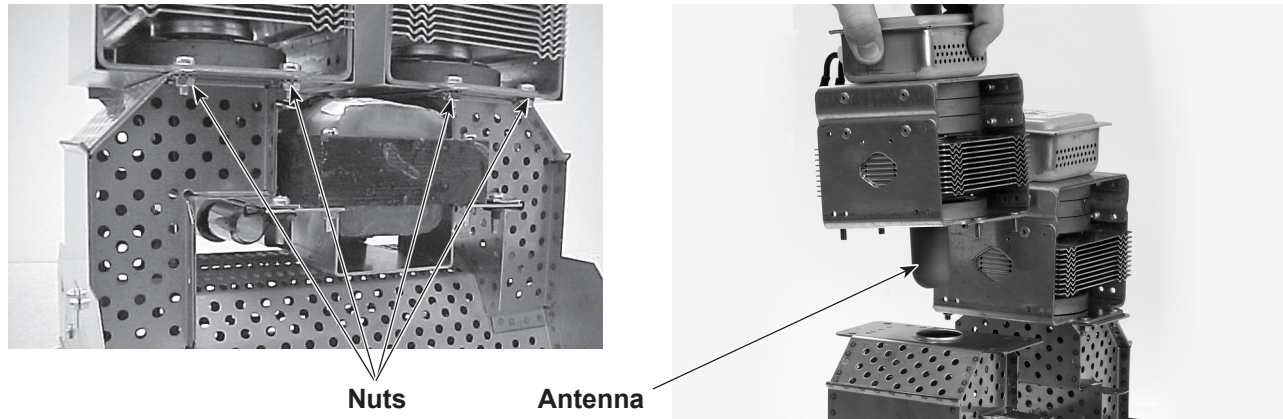

Figure 6-20 Magnetron Removal
4. See Figure 6-20. Remove the four nuts that secure each magnetron to the waveguide. Remove the magnetrons. Save the nuts for reuse.
5. See Figure 6-20. Inspect the gasket around the antenna of the new magnetron, making sure it is smooth and free of debris.